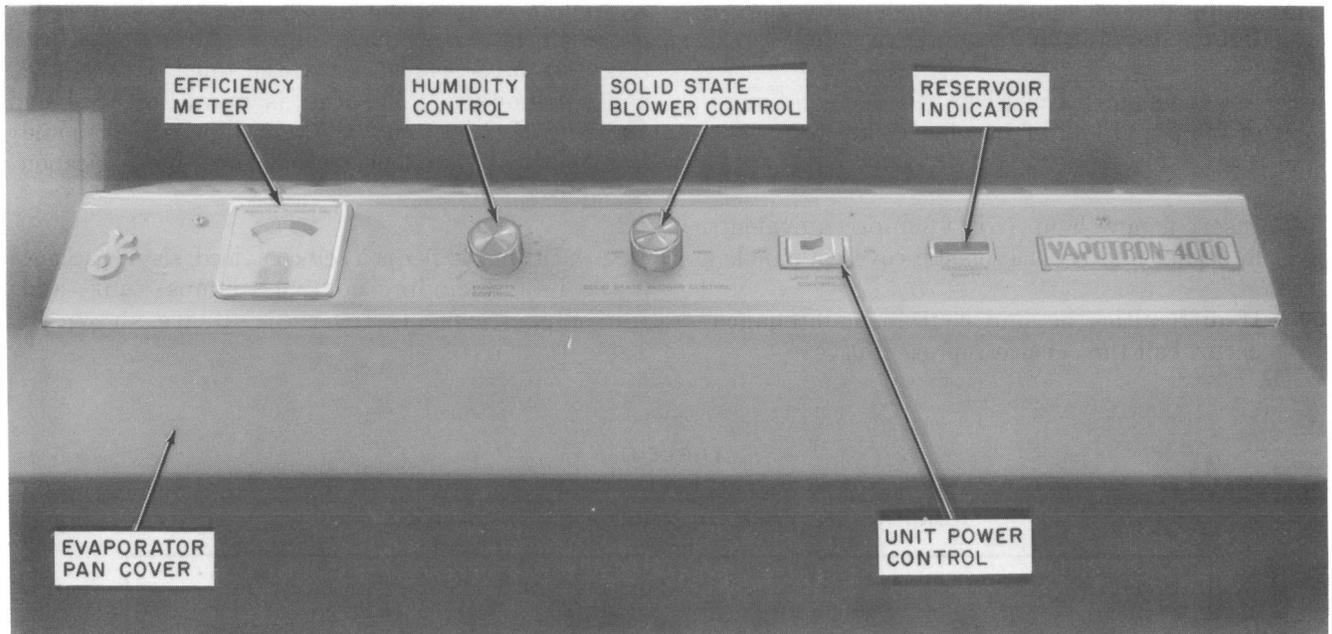

Fig. 24—Vapotron Humidifier (Model 4000) Control Panel
5.01 Relative humidity control is a vital concern of the No. 2A or 2C ESS offices. Static electric discharge poses a threat to electronic circuits as well as to operating personnel. For this reason provisions have been made for a Vapotron humidifier, (Fig. 24), Model 4000, above the toilet area of the control module. The unit is manufactured by Hamilton Humidity Inc., Chicago, Illinois, and should be provided by the telephone company if humidification is required.
- (1) The first thermostat senses the evaporator pan temperature. Should the valve become clogged from the supply side of the unit and the pan runs dry, then the unit is automatically turned-off.
- (2) The second thermostat is an integral part of the blower motor. If the motor were to fail or stop running, the thermostat would turn the unit off. The motor should then be inspected and lubricated and/or repaired if necessary.
5.11 Trouble Indicators—During *normal* operation the efficiency meter needle should point in the *green* area (Fig. 24). If the needle points to the *red* area, it is an indication of a faulty infrared quartz lamp. Refer to the lamp replacement paragraph of this section for proper replacement.